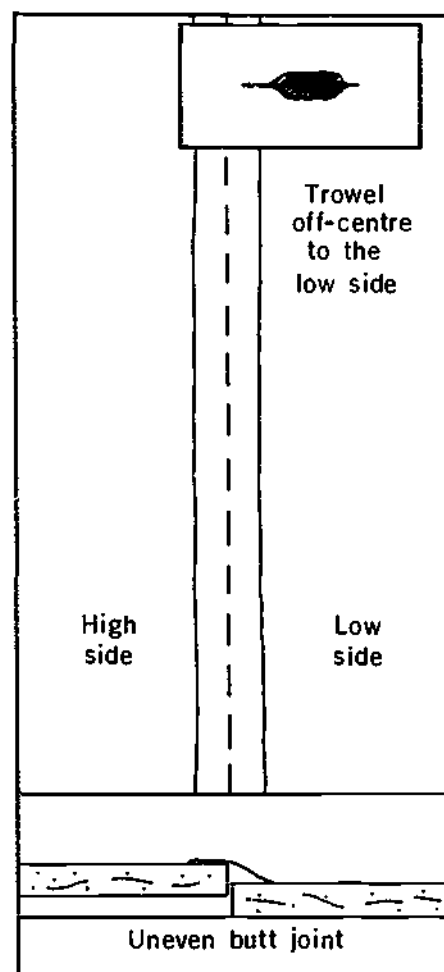

Figure 5-17
1. Load the joint so that the end of the blade runs on the high side (Figure 5-17), i.e., the loading pass will not centre on the tape but rather will be off-centre to the low side.